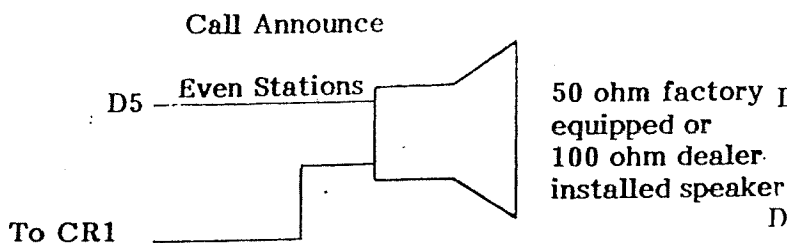

Figure 2
Use 8 OHM speakers ①. 2 or 3 speakers may be employed. Figure 1.A provides maximum volume for both speakers while Figure 1.B provides maximum volume for 1 speaker and reduced volume for 2 speakers. Mount the speakers and bring the wire to the Micro-Key Control unit terminal strip as shown in Figure 2.
Connect a pair of wires to the output of a radio or background music speaker and then connect those wires to the terminal strip as shown in Figure 2.
- B. Solder the stripped speaker lead to the top banded end (cathode) of CR1. (See Figure 2). Make sure steps 6 and 7 have been done.